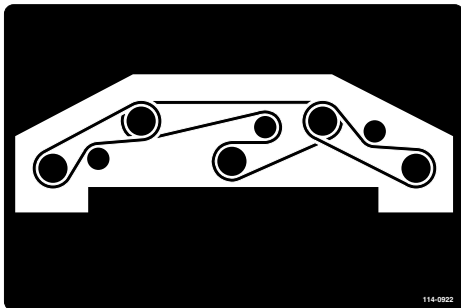

Figure 82
6. Route the new belt around the spindle pulleys and idler pulley assembly as shown in Figure 82.